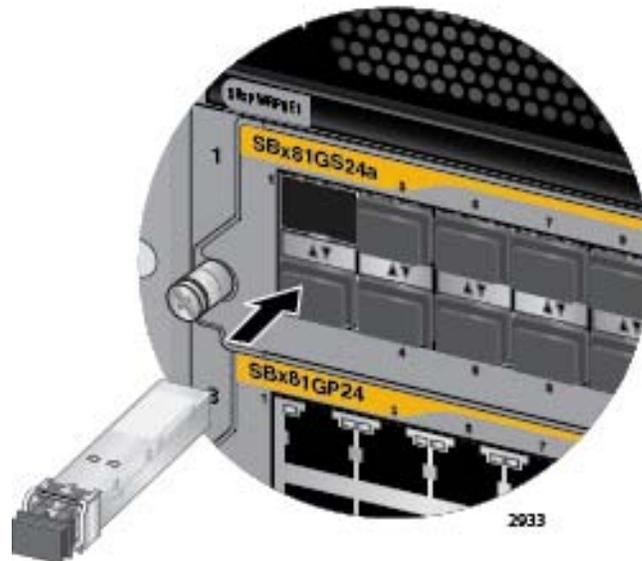

Figure 84. Inserting the SFP Transceiver in the AT-SBx81GS24a Line Card
- Slide the transceiver into the slot until it clicks into place, as shown in Figure 84.